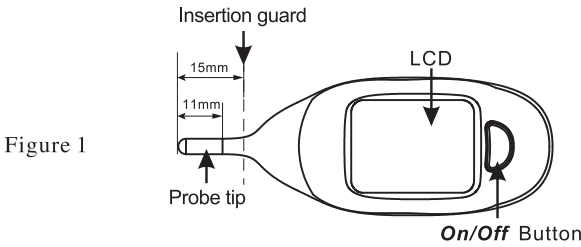

Figure 1
- Gently insert the probe tip approximately 1.3cm(about 1/2") into the rectum. The guard above the tip (see figure 1) is designed to prevent over-insertion. If you detect resistance, stop. Hold the thermometer in place during measurement.